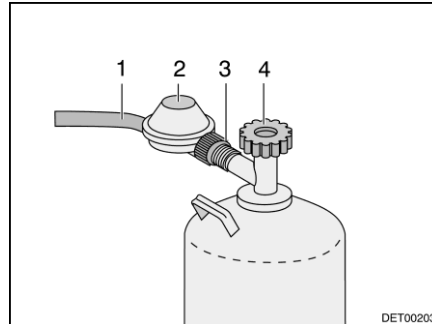

Fig. 109 Gas bottle connection
- Close the regulator tap (Fig. 109,4) on the gas bottle. Pay attention to the direction of the arrow.
- Hold the gas pressure regulator (Fig. 109,2) and open the knurled nut (Fig. 109,3) (normally a left-hand thread).
- Remove the gas pressure regulator and the gas tube (Fig. 109,1) from the gas bottle.
- Position the gas pressure regulator (Fig. 109,2) and the gas tube (Fig. 109,1) on the gas bottle and tighten the knurled nut (Fig. 109,3) by hand (normally a left-hand thread).